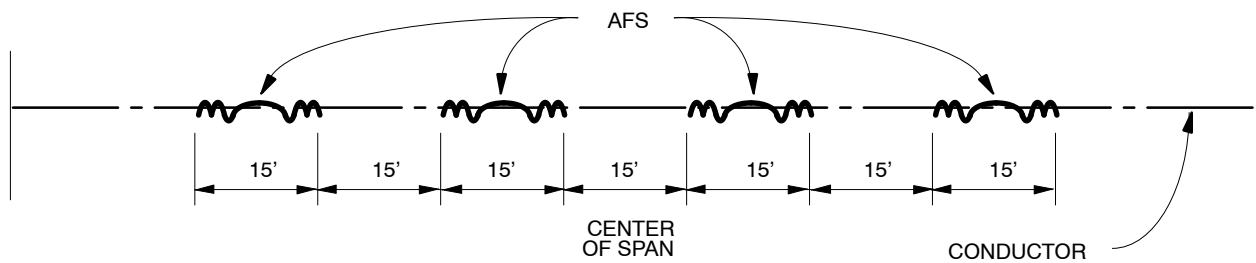

FIGURE 2
3. For a span requiring an EVEN number of AFS, install per Figure 2.